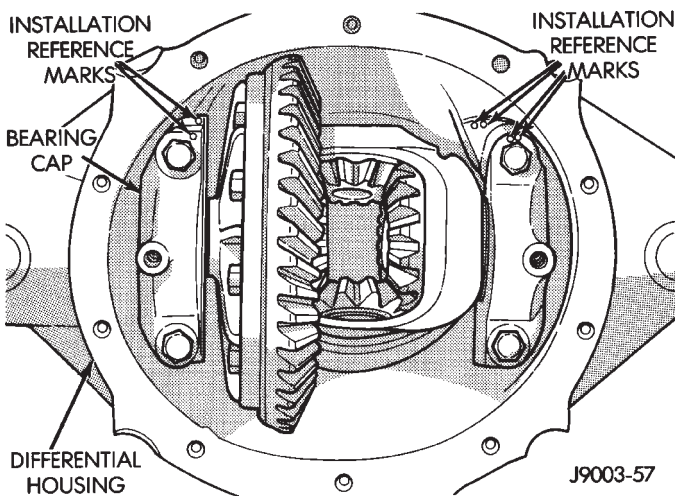

Fig. 17 Mark For Installation Reference
- (2) Mark the differential housing and the differential bearing caps for installation reference (Fig. 17).